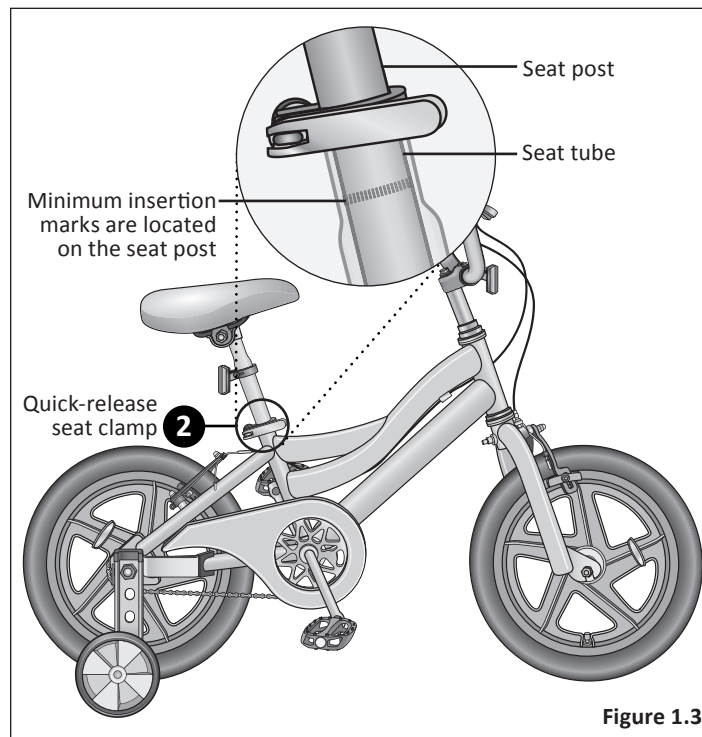

Figure 1.3
- 2 Ensure the seat post's ***minimum insertion marks*** are **not** visible above the seat clamp and the clamp is locked in place. **Figure 1.3**